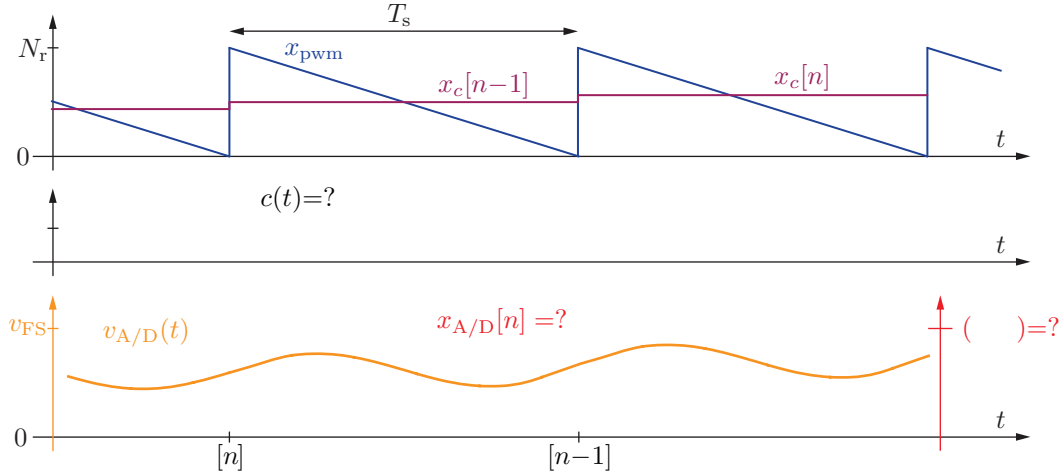

Figure 2: Digital system waveforms for Problem 3.
- Sketch the binary PWM output $c(t)$ and sampled ADC value $x_{A/D}$ waveforms onto Figure 2. Overlay $x_{A/D}$ on the same plot as $v_{A/D}$.
- Add the following items onto Figure 2: Label the maximum feasible integer value of $x_{A/D}$ vertical axis, specify the DPWM counter maximum N_r , label the duty D , and the delays T_{ctrl} and T_{mod} . Also draw the delays $T_{A/D}$, T_{comp} , and T_{hold} within T_{ctrl} and try to draw them to scale.